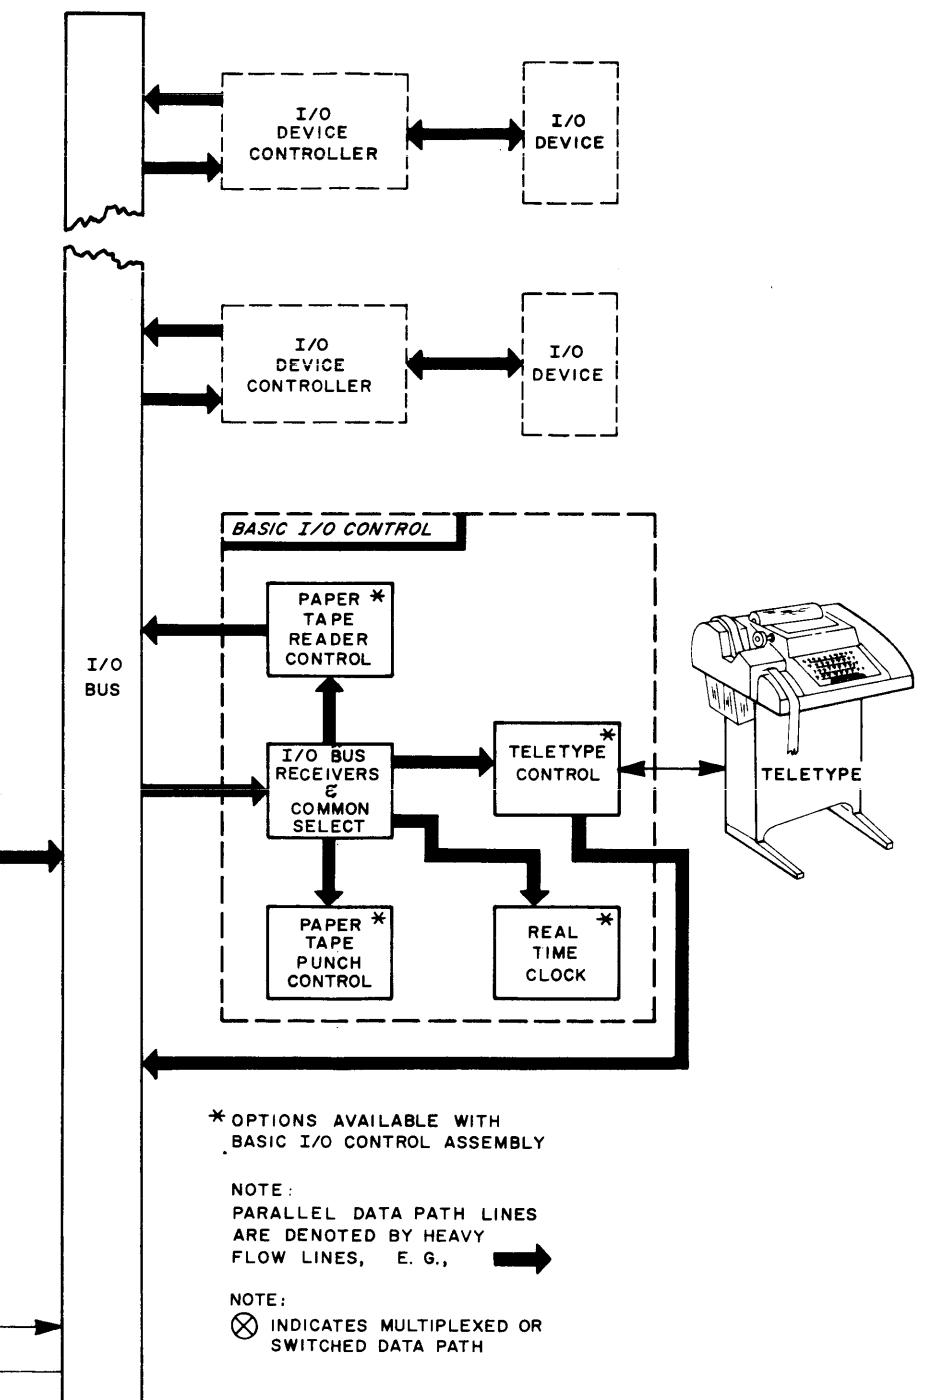

Figure 1-1. Block Diagram of Nova 800
The particulars covered in this paragraph are addressed primarily to the unique features of the Nova 800 architecture rather than to the fundamental operations characteristic of all general purpose Computers. Figure 1-1 is a general block diagram of the Nova 800 Computer. This diagram serves two important purposes; of which the first shows the function relationships of the major Nova 800 logic sections, the second identifies the physical locations of the major logic section (relative to the Printed Circuit board assemblies). Each printed circuit board assembly is shown as a dash line enclosing the logic sections physically mounted on that particular board. For example, the CPU-1 PCB assembly contains four major logic sections; the Arithmetic and Logic Unit (ALU) Control section, the Timing section, the Instruction Register (IR) & (Major) States section, and the Input/Output (I/O) section. The functional data paths for parallel (word) data is depicted on the drawing by the heavy flow lines. A line with an arrowhead termination on both ends denotes a bi-directional data path. The function of each one of the major Nova 800 data paths is briefly described in the following discussion.
As shown on Figure 1-1, the three following major Printed Circuit Board (PCB) assemblies make up the Nova 800 Computer, CPU-1, CPU-2, and the 4K Core Memory PCB assembly. CPU-1 contains four logic sections; the ALU Control, IR & States, Timing, and the I/O section. During a Fetch cycle the instruction retrieved from memory is loaded into the IR for decoding. Depending on the type of instruction decoded the operational flow sequence of the machine will either switch to the Defer state, the Execute state, or remain in the Fetch state at the end of the current Fetch cycle. The major states logic of this section indicates the present operational state of the machine and, in conjunction with the decoded instruction data, selectively switches to the next operational state. For example, if the instruction Fetched is an LDA with an indirect address, the Defer state will be the next state entered after the Fetch cycle. (Reference the Nova 800 Timing and Flow Chart, Sheet 1, Drawing No. 001-000121, bound into the Reference Drawings Section, Volume III of this manual under separate cover.) All of the Console Control switch functions logically terminate in this section. This logic is used to detect when a Console Key is actuated, and sets up conditions for executing a Key cycle (e.g., AC Examine, AC Deposit, or Start) and a KeyM (Memory) cycle (e.g., Deposit, Deposit Next, Examine, Examine Next, Program Load) if one is required. Once a Key has been seen, and it is not a Continue, Instruction Step, or Memory Step Key, a CON INST (Console Instruction) signal is transmitted to the Console. CON INST allows the Console control switch data to be placed on the MEM bus. Two power supply monitor signals + 5 OK and MEM OK are also routed to the IR & States section. If the MEM OK (Memory Voltage) signal drops low a STOP RQ (Request) signal will be generated. This stops the Processor synchronously with the end of the present instruction. + 5 OK signal, on the other hand, is sensing the + 5 volt logic power. If this signal drops low the entire Computer is reset immediately.